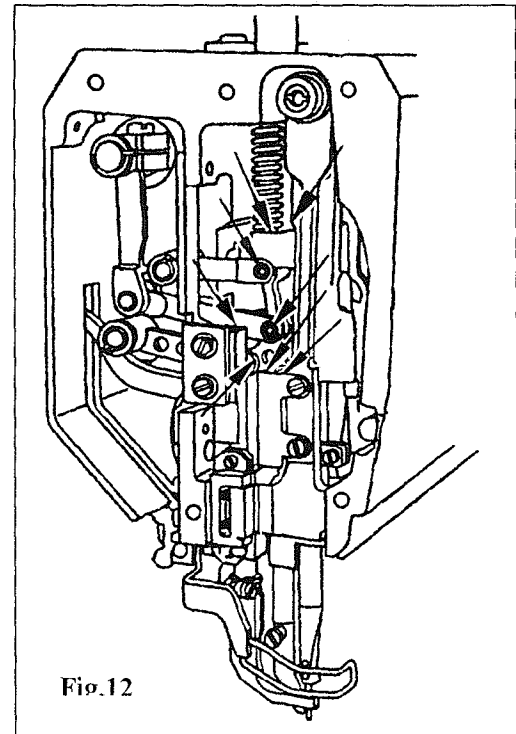

Fig.12
4) OILING THE HEAD (Fig.12)
① Take off the cover and oil all the bearing and sliding positions shown in fig 12 twice weekly.
② Then screw the cover back on.